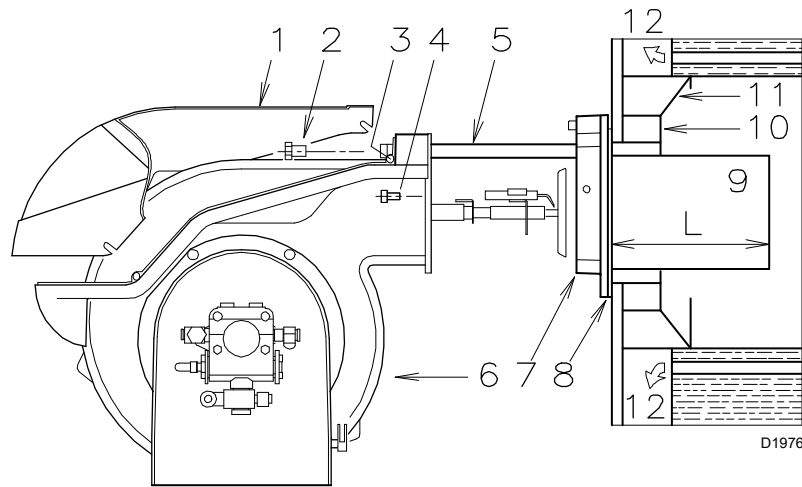

Fig. 12
For boilers with front flue passes 12)(Fig. 12), or flame inversion chamber, a protection in refractory material 10) must be inserted between the boiler fettling 11) and the blast tube 9)(Fig. 12).
For boilers with a water-cooled front piece, a refractory lining 10)-11)(Fig. 12) is not necessary, unless expressly requested by the boiler manufacturer.
Remove blast tube 9)(Fig. 12) from the burner 6)(Fig. 12):
Fix the flange 7)(Fig. 12) to the plate of the boiler interposing the seal 8)(Fig. 12) supplied with the unit.
- open the burner on the slide bars 2)(Fig. 15) as shown in Fig. 12 on page 18.